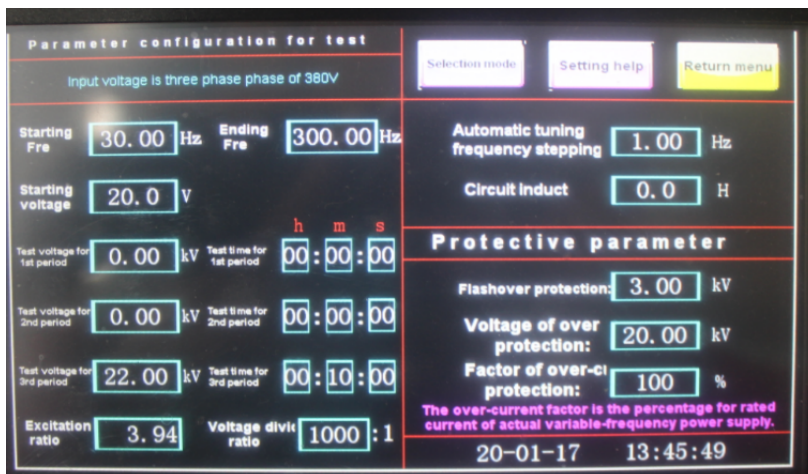

Figure 3
3.2 Test parameter configuration: The various parameters of the current test must be correctly set before each test! After clicking on "Parameter Configuration", the display interface is shown in Figure 3.